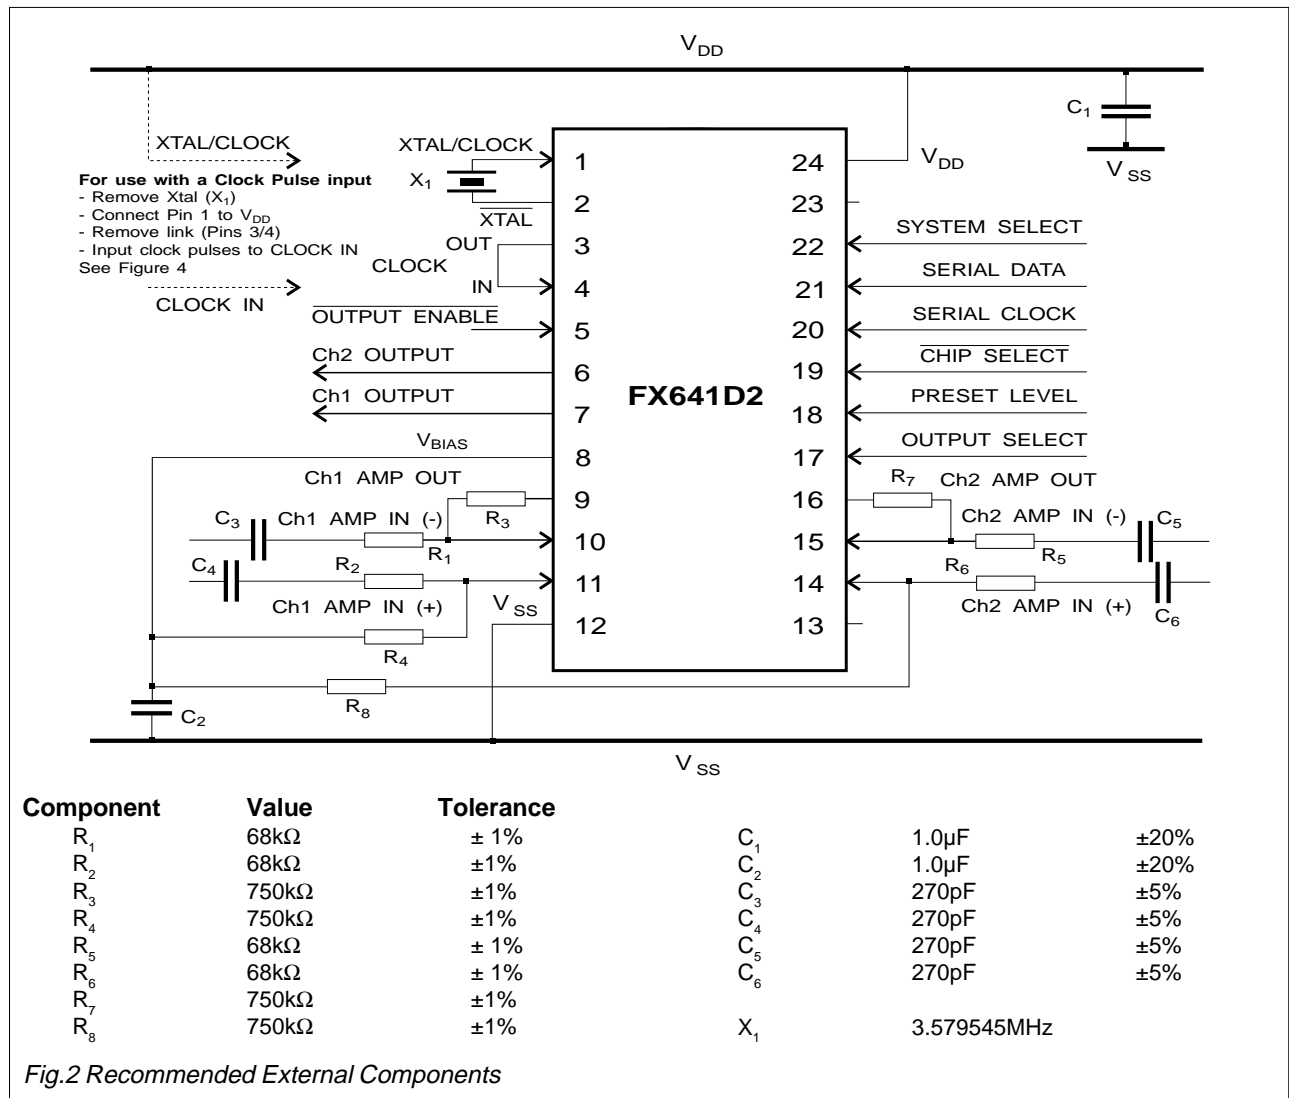

Fig.2 Recommended External Components
1	Xtal/Clock: The input to the on-chip clock oscillator; for use with a 3.579545MHz Xtal in conjunction with the $\overline{\text{Xtal}}$ output; circuit components are on-chip. When using a Xtal input, the Clock Out pin should be connected directly to the Clock In pin. If a clock pulse input is employed to the Clock In pin, this (Xtal/Clock) pin must be connected directly to V_{DD} (see Figure 2). See Figure 4 for details of clock frequency distribution.
8	V_{BIAS}: The output of the on-chip analogue bias circuitry. Held internally at $V_{DD}/2$, this pin should be decoupled to V_{SS} (see Figure 2).
9	Ch 1 Amp Out: The output of the Channel 1 Input Amplifier. See Figures 2 and 3.
10	Ch 1 Amp In (-): The negative input to the Channel 1 Input Amplifier. See Figures 2 and 3.
11	Ch 1 Amp In (+): The positive input to the Channel 1 Input Amplifier. See Figures 2 and 3.
14	Ch 2 Amp In (+): The positive input to the Channel 2 Input Amplifier. See Figures 2 and 3.
15	Ch 2 Amp In (-): The negative input to the Channel 2 Input Amplifier. See Figures 2 and 3.
16	Ch 2 Amp Out: The output of the Channel 2 Input Amplifier. See Figures 2 and 3.
1. The recommended amplifier components (see Figure 2) are employed providing an amplifier gain at 16kHz of 19.8dB \pm 0.3dB or at 12kHz of 19.1dB \pm 0.3dB.
With the external gain (sensitivity) components employed as shown in Figure 2 the gain of the input stages is 19.8dB (12kHz) or 20.5dB (16kHz). For controlled sensitivity setting the gain of each bandpass filter, and hence the device sensitivity, is adjusted by the applied serial bits D_1 to D_5 .